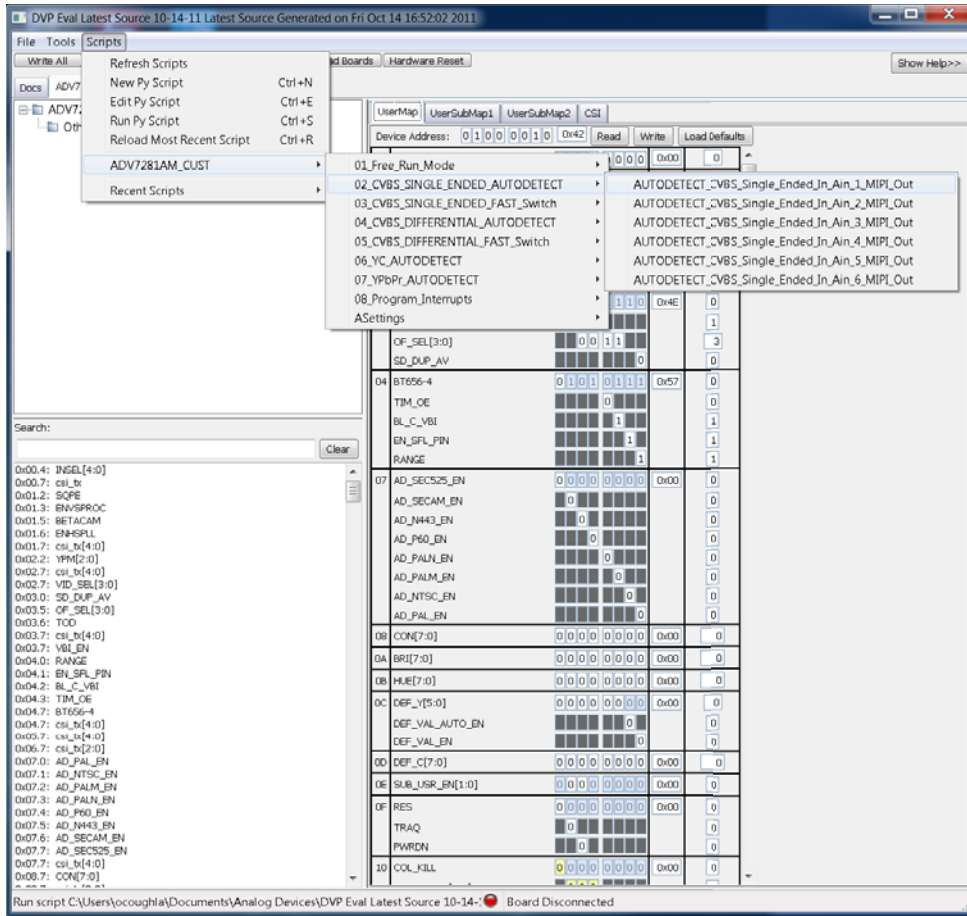

Figure 8. Running ADV7281A-M Script on DVP Eval Software
5. Select **Scripts > ADV7281AM_CUST** to select and run a script to configure the evaluation board (see Figure 8).
6. To monitor the registers of the **ADV7281A-M**, click on the associated device tab within the **DVP Eval Software** (see Figure 8).